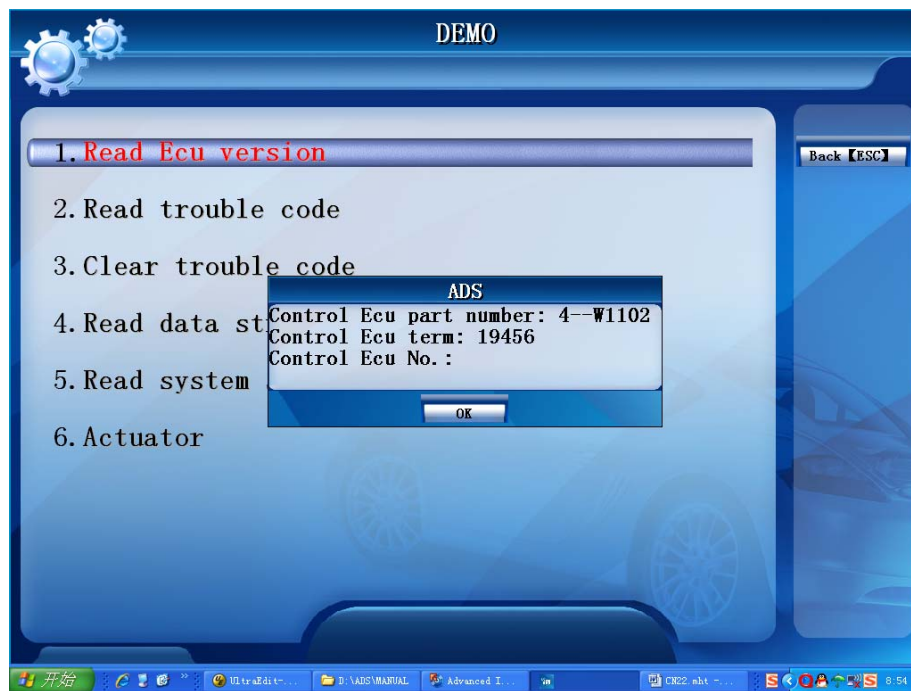

Figure-12
12. If you choose “Read Ecu Version”, it will appear content of Ecu Version. As shown in figure-12